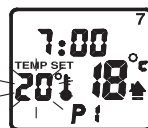

Figure 14
- Use the and buttons to adjust the temperature, (Figure 14) or if the set temperature did not require changing, press the button to move to the next period.